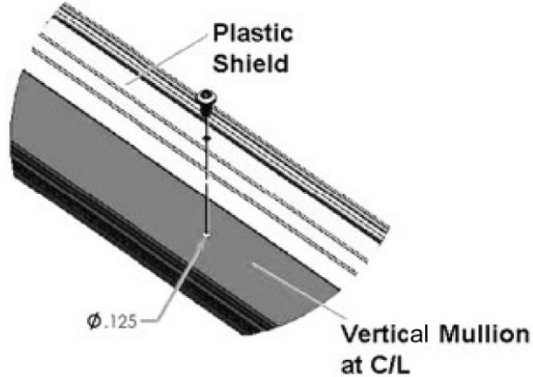

Figure 2.
- c. Using a Phillips screw driver, thread a #8 tapping screw through the plastic extrusion. Refer to Figure 2.